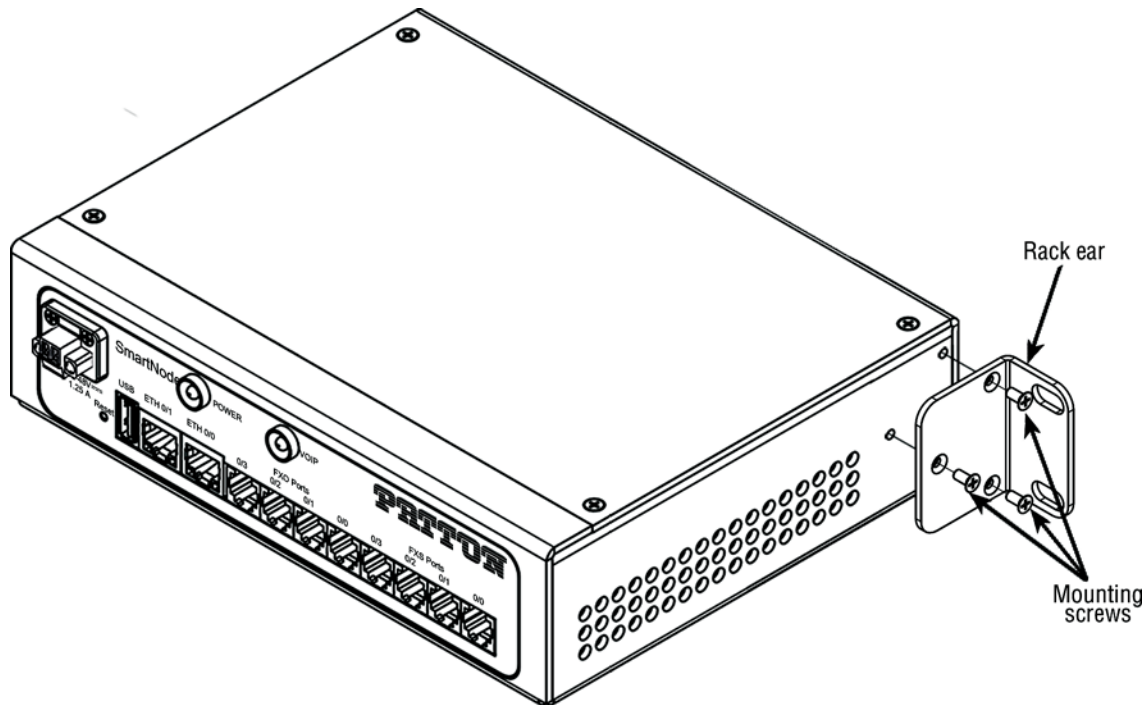

Figure 25. Connecting the 552-GS2 to a CL1300R
1. While holding the rack ear in place where shown in figure 25, use a cross-tip screwdriver to install three mounting screws (included with the rack ears kit) to secure the rack ear.